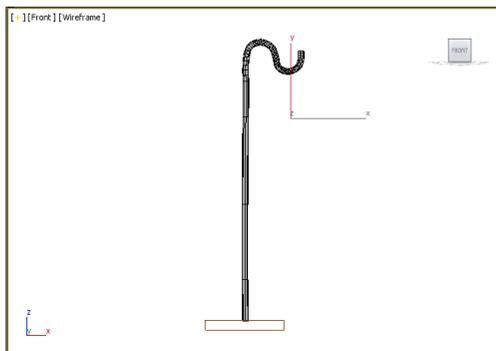

Figure 5-27 The thickness added to *pillar*
- Make sure the **Radial** radio button is selected and set the value **0.15** in the **Thickness** spinner; the thickness is added to *pillar*, as shown in Figure 5-27.